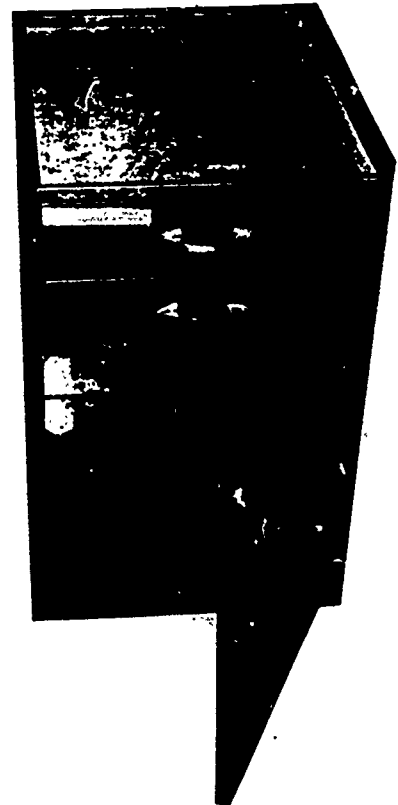

Figure 1-4. Tabouret. 13
**Tabourets.** A tabouret serves as a storage space for frequently used tools and materials. Because most tabourets are on wheels and are portable, you can easily relocate your tools and materials when the need arises. The top of the tabouret is flat with a raised lip around its perimeter. The tabouret will have one or more drawers and a storage space below. These features enable you to keep your most frequently used tools and materials close at hand. Figure 1-4 illustrates a type of tabouret.